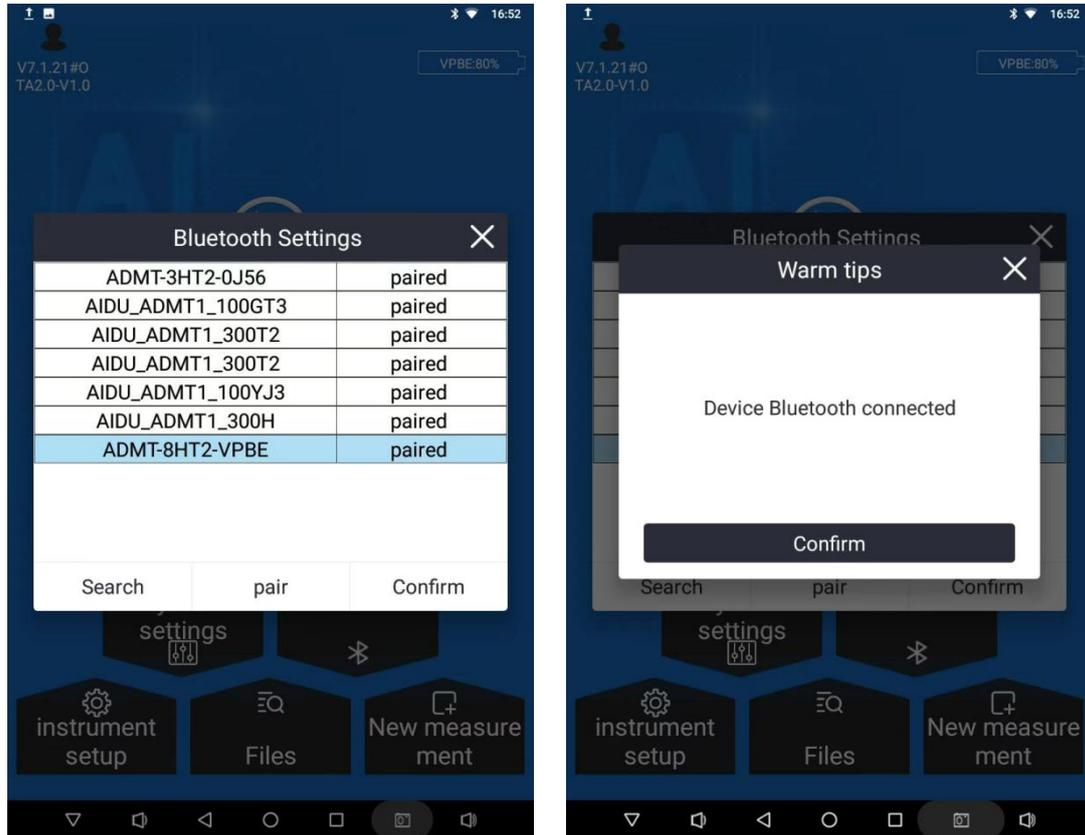

Figure 9
**WiFi connection:** After the personal hot spot is set and turned on, long press the power button on the panel at one end of the golden stick to turn on the red light to steady on, indicating that the power is successfully turned on, and the WF light (blue light) blinks slowly. Select WiFi connection in the connection mode of the main interface of the APP (Figure 9), wait for about 10-30 seconds, the
**Bluetooth connection:** Turn on the Bluetooth function of the host, long press the WF\BT button on the water searching golden stick panel to switch to Bluetooth mode, and the BT light (yellow light) blinks slowly. Select Bluetooth connection in the connection mode of the main interface of the APP (FIG. 9), wait for about 10-30 seconds, the APP will automatically jump to the instrument setting interface, and the yellow light on the golden groundwater detector panel will be steady on. The version number, hoop, and specific model are displayed in the central area of the main screen. The initialization is successful.